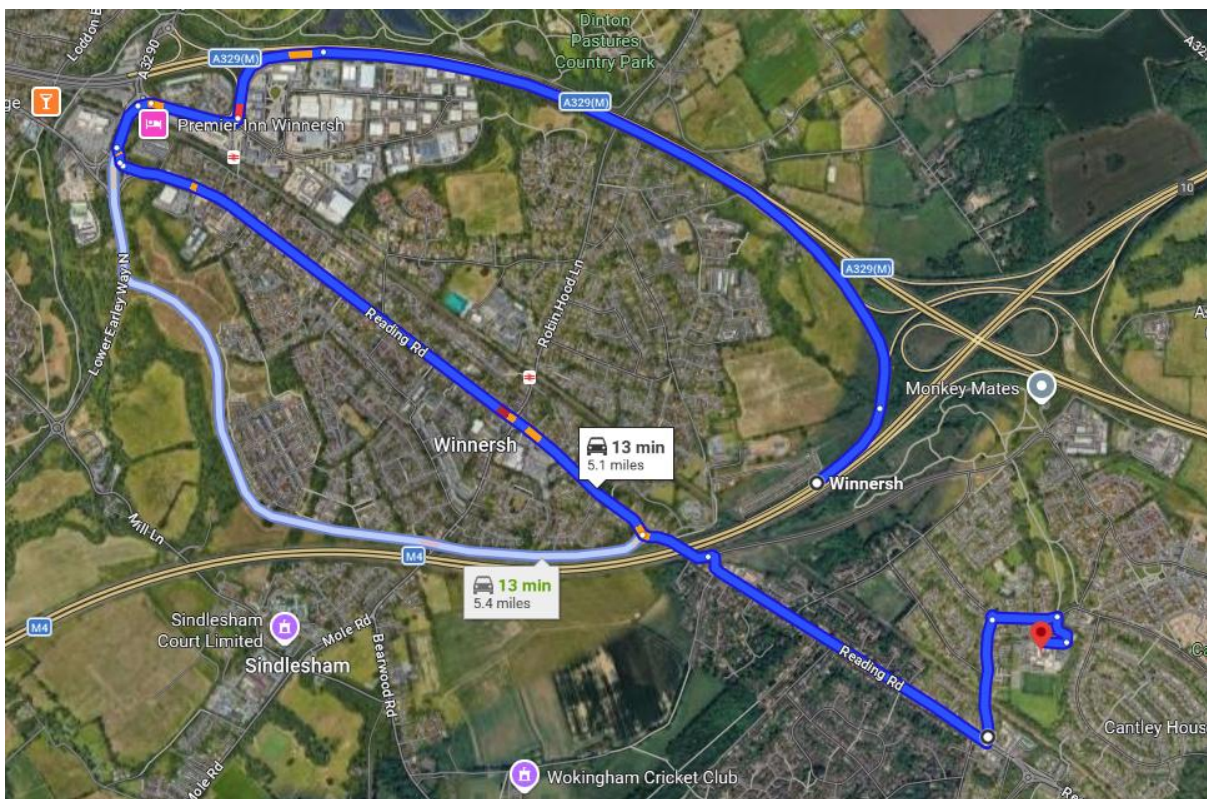
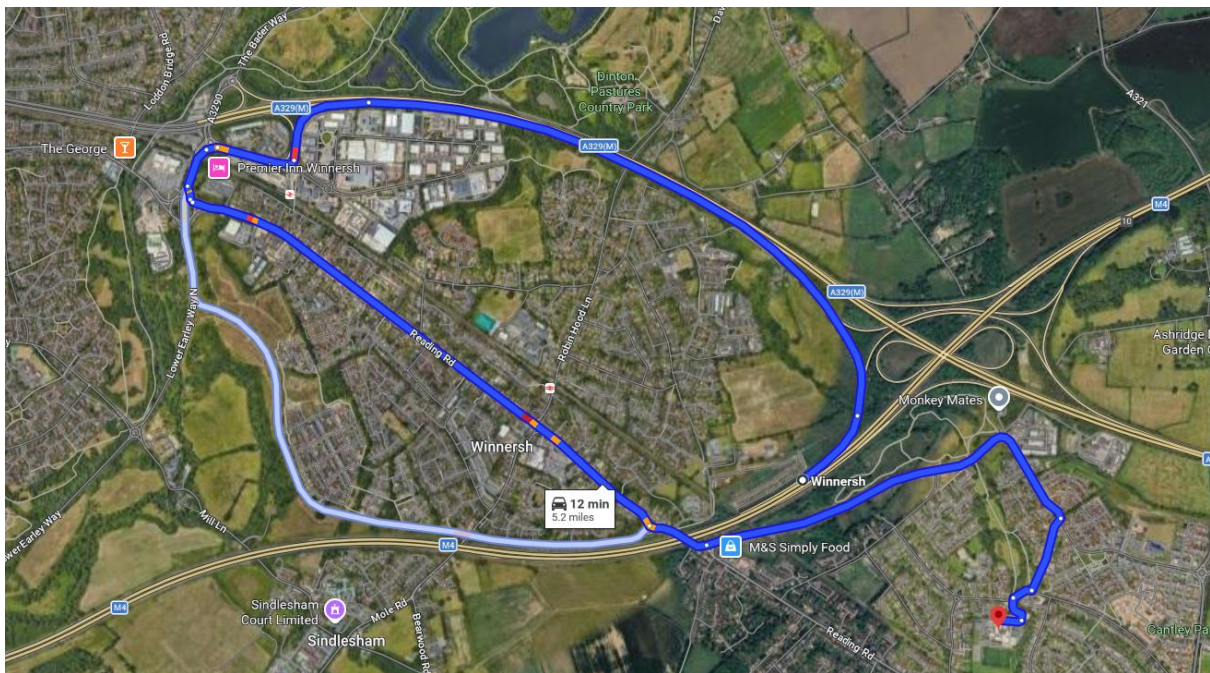

FIGURE 2: PREFERRED CONSTRUCTION ROUTE TRAVELLING FROM M4/A3290
FIGURE 3: CONSTRUCTION ROUTE TRAVELLING FROM M4/A3290 FOR TALL VEHICLES
- 1.7.4 Given the geographical location of the site, it is highly likely that all deliveries and construction vehicles will be arriving from the M4 or A3290/A329(M) as shown in Figure 2. For tall vehicles unable to access the site due to the 3.9m height restriction on Emmbrook Road, the alternative route is shown in Figure 3. When leaving the site and travelling back towards the M4 or A3290/A329(M), vehicles will follow the same route.